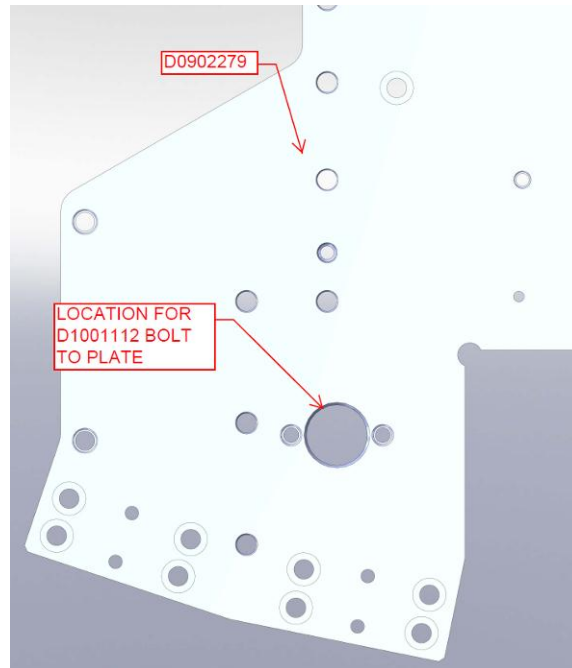

Figure 35: Location for D1001112 Stage 1-2 Tooling Standoff Pin on D0902279 Stage 1 Base Plate
- Attach (3) D1001112 Stage 1-2 Tooling Standoff Pin Assembly to D0902279 Stage 1 Base Plate with (2) 3/8-16 x 1.25" SHCS & (3) 3/8 Vented Washers. **Torque these bolts up to 329 in.lbs (27 ft.lbs)** (See Figure 35).